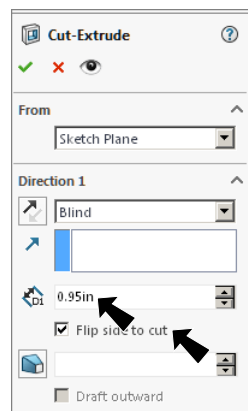

Fig. 7
Step 8. In the Cut-Extrude Property Manager set: under **Direction 1**, **Fig. 7**